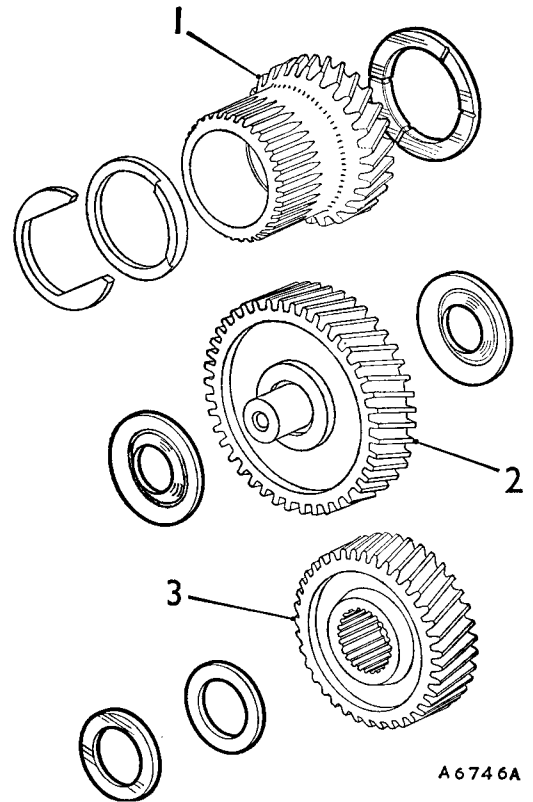
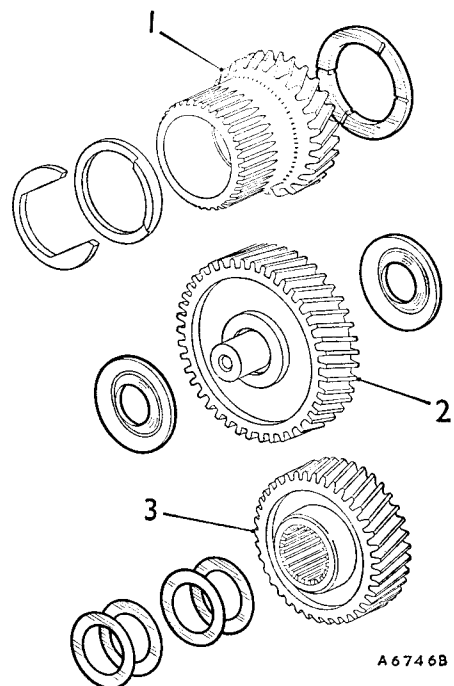

Fig. Aa.14
Fig. Aa.19
NOTE.—Two types of input gears have been used, those fitted to earlier units have two thrust washers (Fig. Aa.14). The later gear (of increased hub thickness) has a number of thin shims fitted to the outer hub face of the gear for adjustment (see Fig. Aa.19).
(b) Fit two washers to make up the calculated thickness onto the input gear shaft. Both washers must be fitted to the outside of the input gear (see Fig. Aa.14), with the chamfered inside edge of one washer towards the gear.
- (38) (a) Fit the required thickness of shims as calculated in item (36) onto the outside of the input gear (see Fig. Aa.19).
- (b) Fit one washer on each side of the idler gear (see Fig. Aa.19) as calculated in item (37).